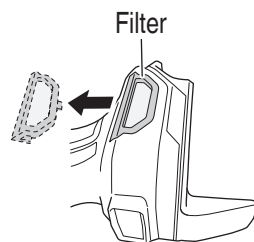

Fig. 23
- If the mesh is clogged and the debris or dust cannot be removed, detach the filter and clean it with an air gun, etc. (Fig. 23)